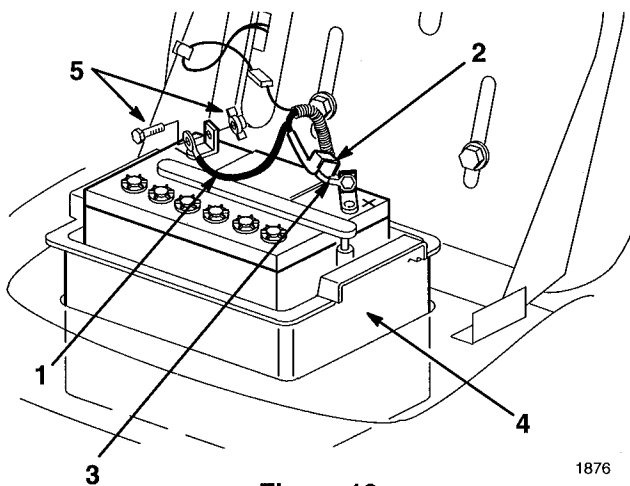

Figure 18
3. Disconnect the negative (black) ground cable from the battery post (Fig. 18).
4. Slide the rubber cover up the positive (red) cable. Disconnect the positive (red) cable from the battery post (Fig. 18).
3. Using the bolt and wing nut, connect the positive (red) cable to the positive (+) battery post (Fig. 18). Slide the rubber cover over the battery post.
4. Using the bolt and wing nut, connect the negative (black) cable to the negative (-) battery post (Fig. 18).